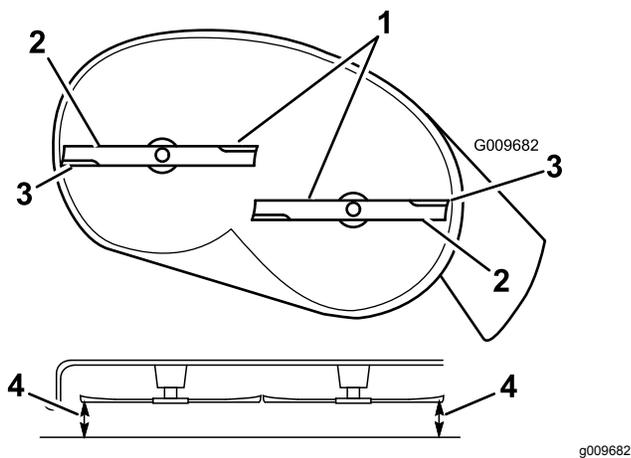
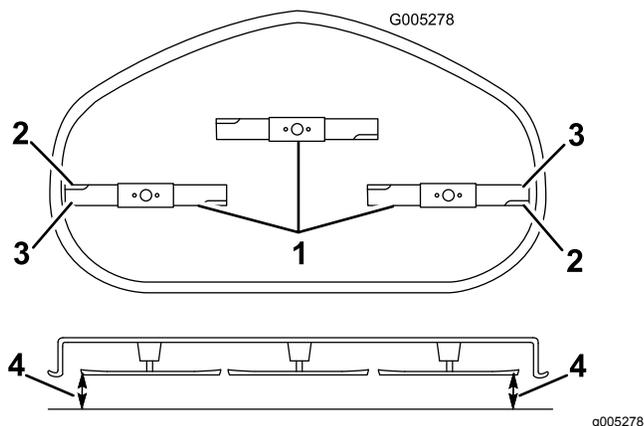

Figure 63
Figure 64
- Carefully rotate the blades so that they are all side to side (Figure 63 and Figure 64).
5. Measure between the outside cutting edges and the flat surface (Figure 63 and Figure 64).